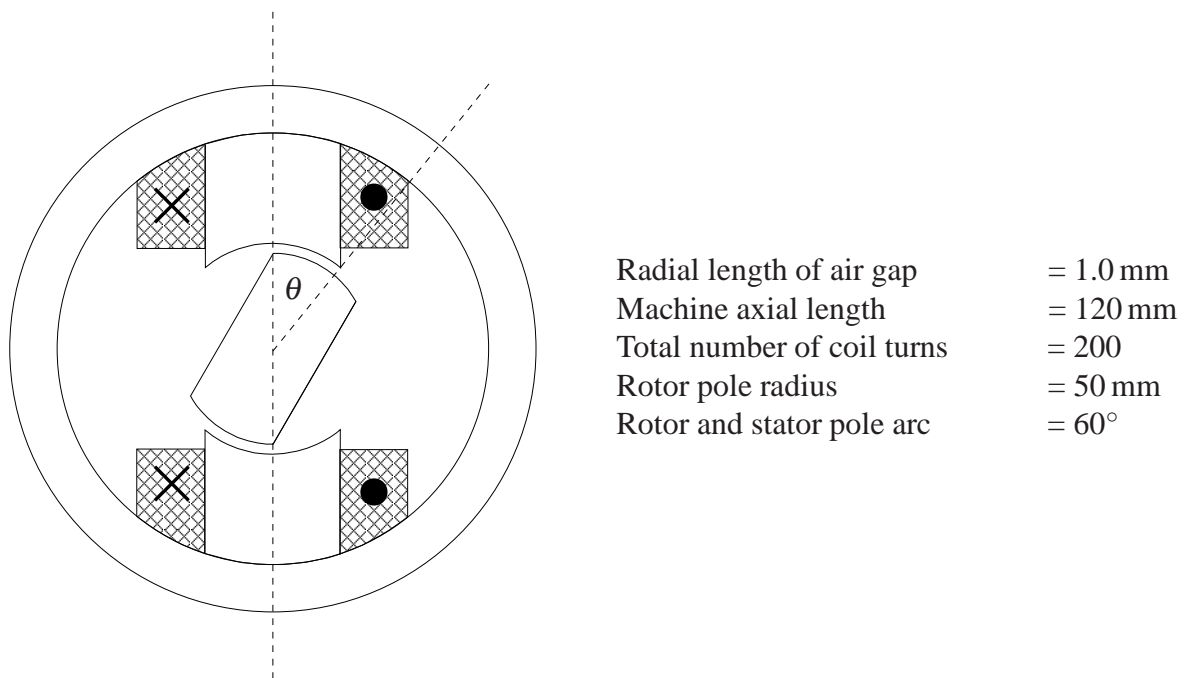

Figure 1: Rotary machine for the tutorial problems. The 200 coil turns are split into the two halves.
4. This question concerns the elementary rotary system shown in figure 1, with the parameters indicated with the figure.
- (a) Assuming that the iron circuit has no significant reluctance, determine the reluctance of the magnetic circuit in figure 1, as a function of the rotor/stator overlap angle, θ .
- (b) Sketch the magnetic flux pattern for the arrangement in figure 1.